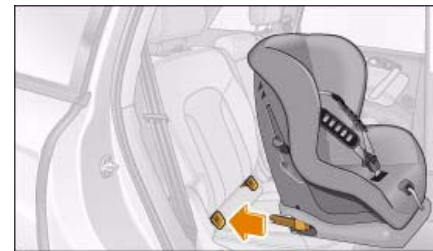

Fig. 231 The ISOFIX child safety seat is pushed into the protective sleeves.
- Fit the protective sleeves (A) onto the retainers (B) between the backrest and the seat cushion ⇒ *page 218*, fig. 231.
- Push the mountings on the child safety seat into the protective sleeves until they engage audibly (2x) ⇒ *page 218*, fig. 231.